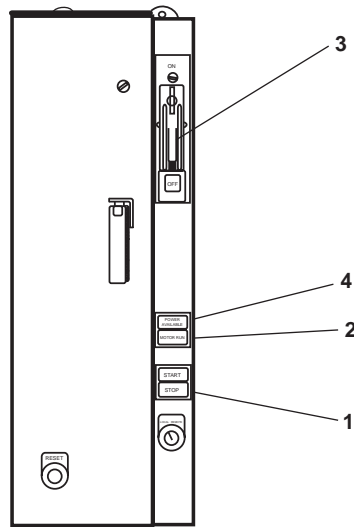

Figure 5. Bilge Pump Motor Controller
- a. Press the STOP pushbuttons (figure 5, item 1).
- b. Verify that the MOTOR RUN indicators (figure 5, item 2) are out.
- c. Set the ON-OFF switches (figure 5, item 3) to OFF.
- d. Verify that the POWER AVAILABLE indicators (figure 5, item 4) are out.